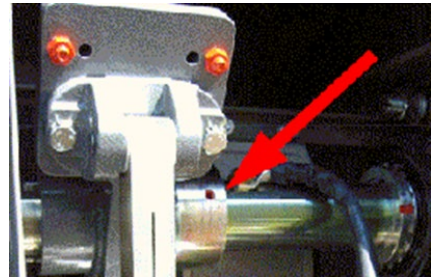

Figure 2 – Cap Head Screw Position
9.15 Check the cap head screw on circuit controller lever is secure (see Figure 2).